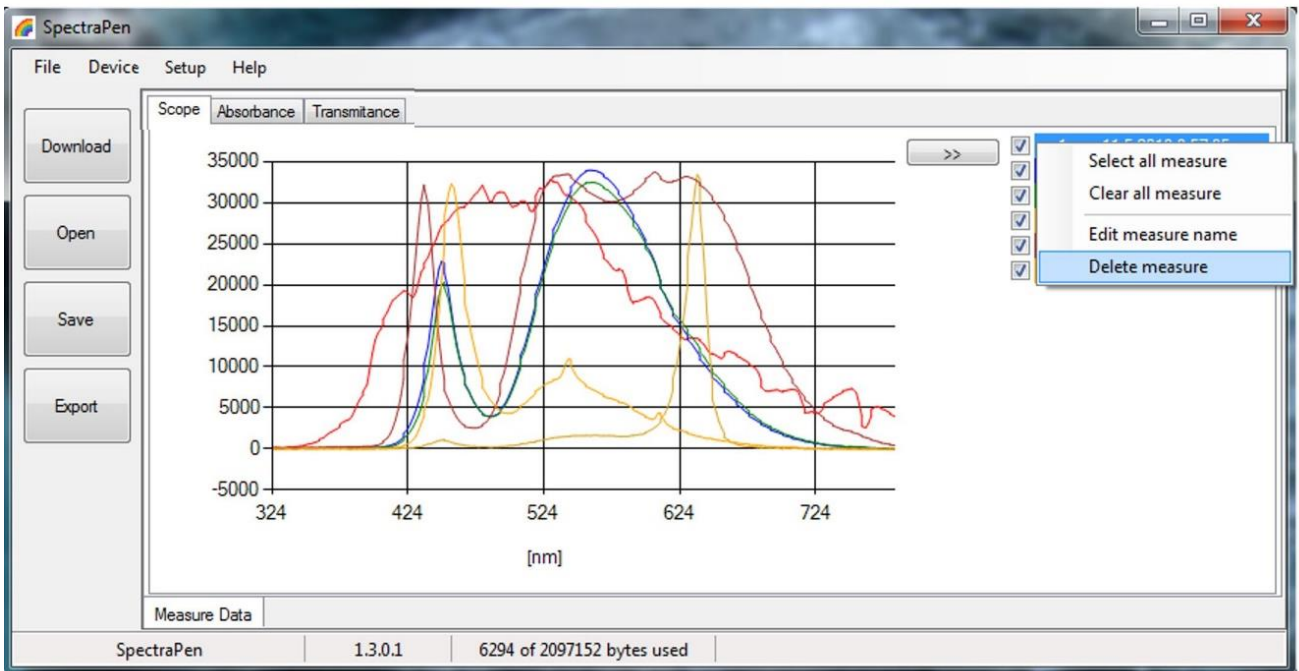

Fig. 25 Options for list of data.
7. Right click on list of measured data enables **edit data name**, **delete** selected measurement or **show and hide** all measured data in the graph– Select all measure and Clear all measure (Fig. 25).